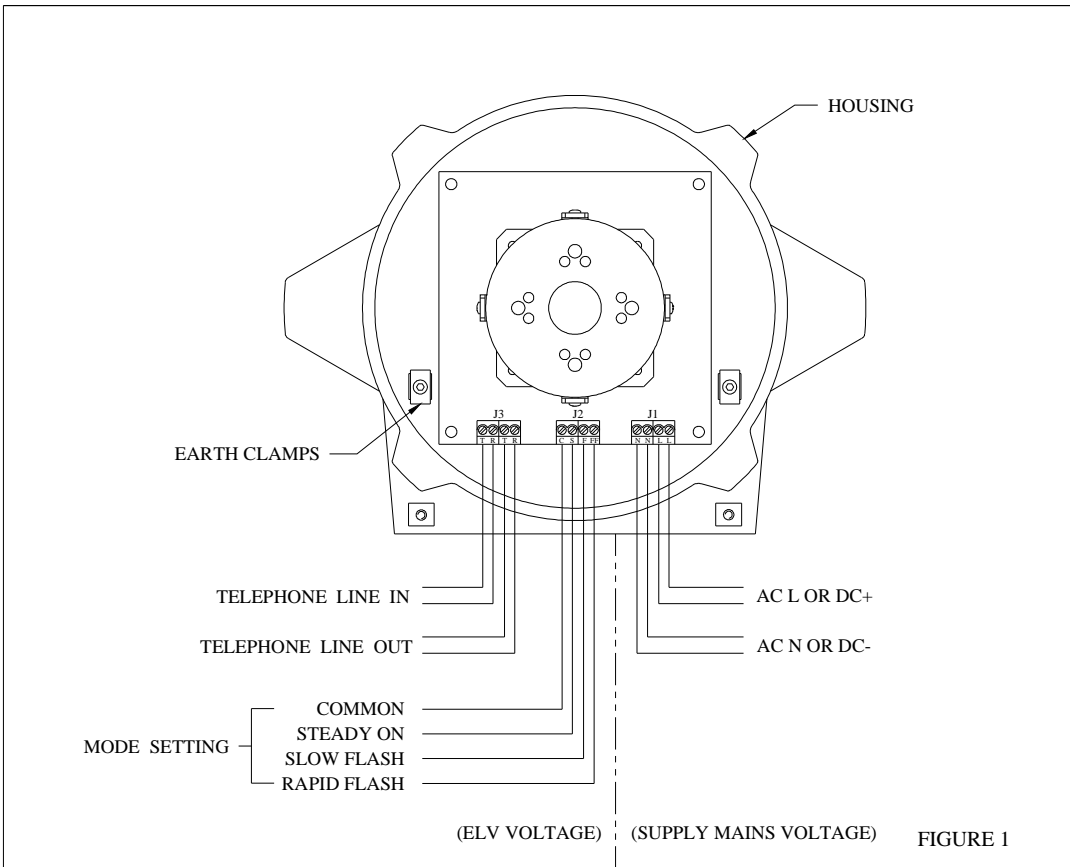

FIGURE 1
- e. A series of four-pole screw terminal blocks are provided for field wiring. See figure 1 for wiring diagram. These terminals are rated for the following wire ranges: 24-12 AWG (0.25 – 4 mm²).
- a. Connect power wiring to the J1 terminal block as indicated in Figure 1(EEx d) or 2 (EEx de). The supply power should not be switched as the remote contacts are used to activate the light.
- a. Connect power wiring to the J1 terminal block as indicated in Figure 1(EEx d) or 2 (EEx de).
- a. Connect power wiring to the J1 terminal block as indicated in Figure 1 (EEx d) or 2 (EEx de).
- b. Connect telephone line wiring to the J3 terminal block as indicated in Figure 1 (EEx d) or 2 (EEx de).